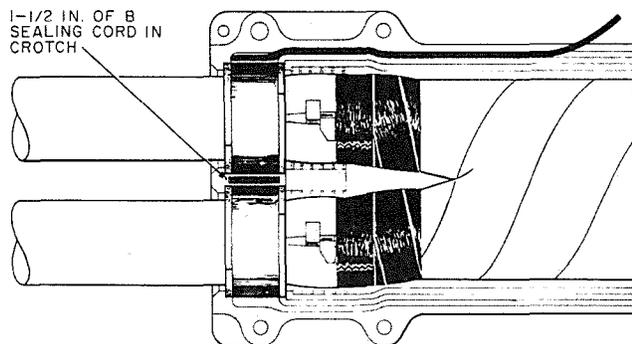

Fig. 26—Sealing Cord Placed Between Cables
3.25 On 21- and 31-type cases, place a 1-1/2 inch length of sealing cord in each crotch (Fig. 26).